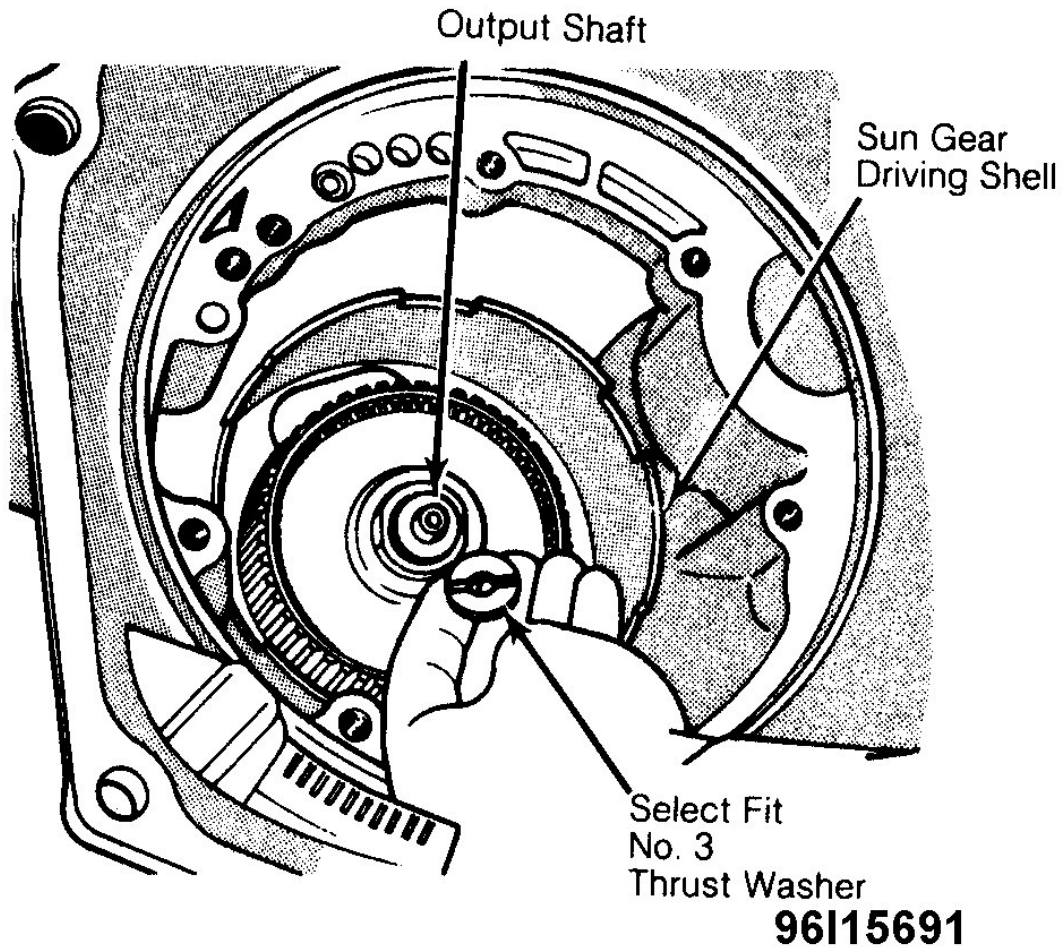

Fig. 6: Removing No. 3 Thrust Washer
5. Remove No. 3 thrust washer from end of output shaft. See **Fig. 6** . Remove snap ring retaining front planetary gear assembly in case. Slide out gear assembly.